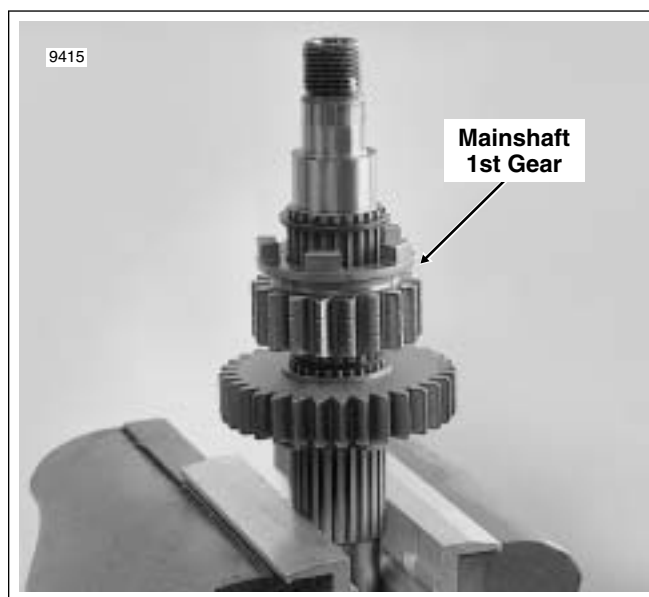

Figure D-5. Disassemble/Assemble Mainshaft
14. Secure the mainshaft in a vise with the longer splined end at the top. Be sure to install a pair of aluminum or brass jaw inserts in vise to avoid parts damage. See Figure D-5.
9. With the fork groove up, slide mainshaft 1st gear (spur with double row of indents on teeth) down mainshaft until it contacts retaining ring. Install **new** retaining ring in groove above the gear. See Figure D-5.